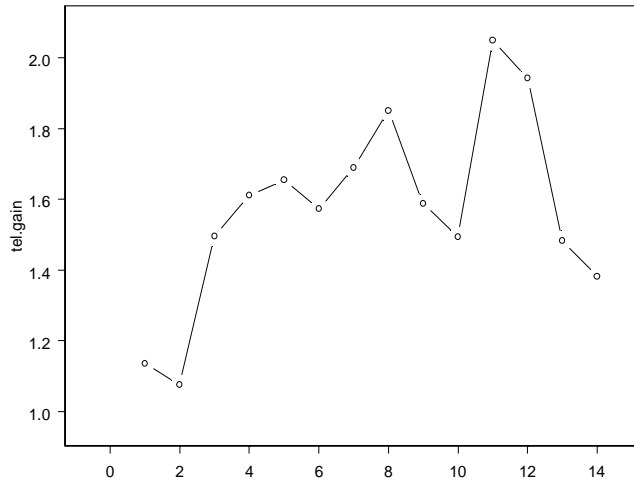

Figure 3.22: *Line with isolated points plot of tel.gain.*
2. Click the **Isolated Points** button  on the **Plots 2D** palette. The resulting graph is shown in Figure 3.22.